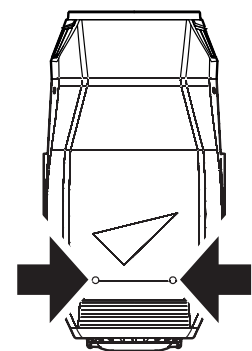

Figure 19: Head cover screws
2. Remove both head covers by loosening their quarter-turn retaining screws (see Figure 19).
3. Remove the two retaining screws (see Figure 19) from the top cover and lift it away from the head. Let the cover hang on its safety wire or unclip the safety wire and remove the cover completely.